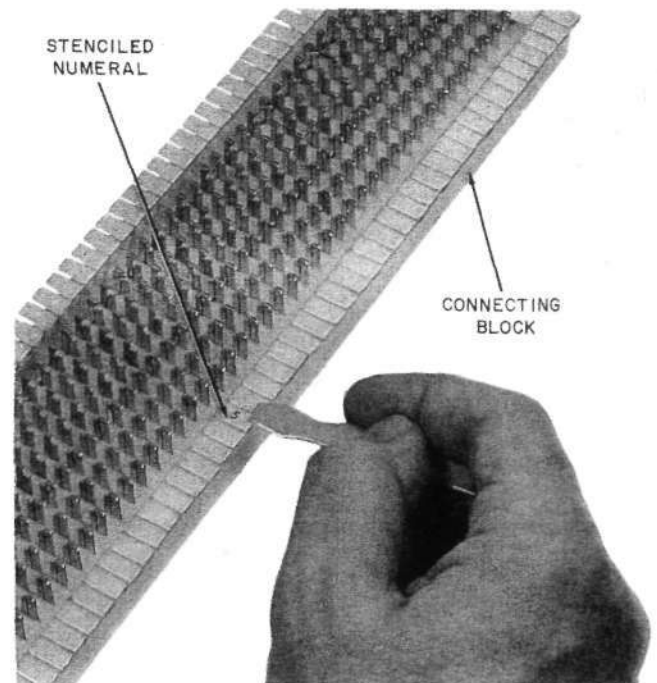

Fig. 3—Stenciled Number
- (2) Carefully remove the transfer sheet to expose the stenciled letter or numeral (Fig. 3).